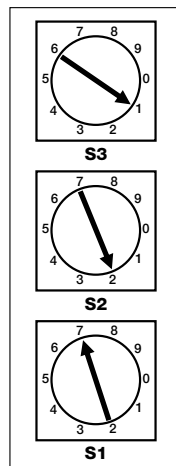

FIGURE 4b
6. Finally, as desired, the DMX address should be set (for DMX units). The top switch (S3) is the “one-hundreds” unit for the address, the middle switch is the “tens” unit, and the lower switch (S1) is the “ones” unit. Addresses may be set from 1 to 501. This unit “uses” twelve addresses (so address 501 uses addresses 501 to 512 for example). To set the unit to base address 127 set the S1, S2 & S3 switches as follows (See FIGURE 4b):